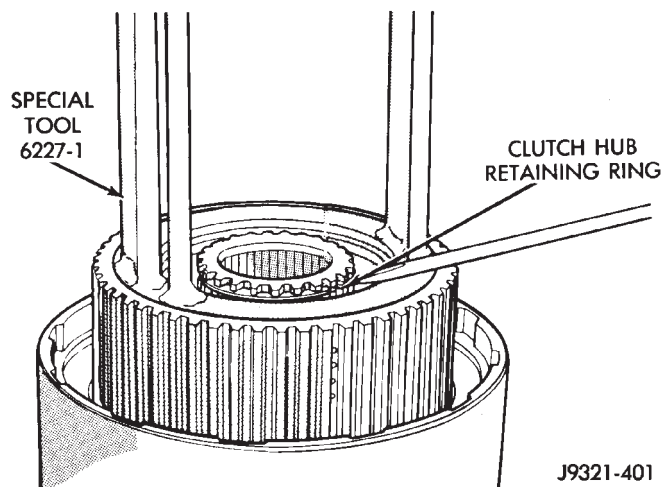

Fig. 227 Clutch Hub Retaining Ring Installation
(25) Install clutch hub retaining ring (Fig. 227). **Be very sure retaining ring is fully seated in sun gear ring groove.**
(26) Slowly release press ram, remove compressor tools and remove geartrain assembly.